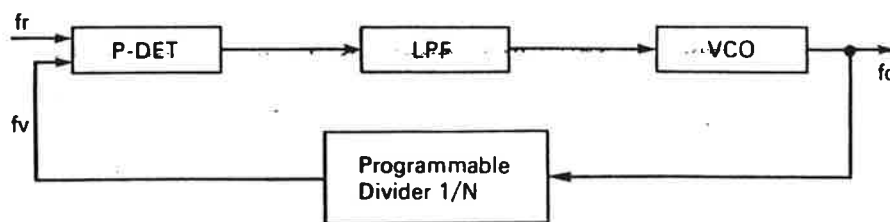

Figure 4
2. PLL Synthesizer (Figures 4 and 5)